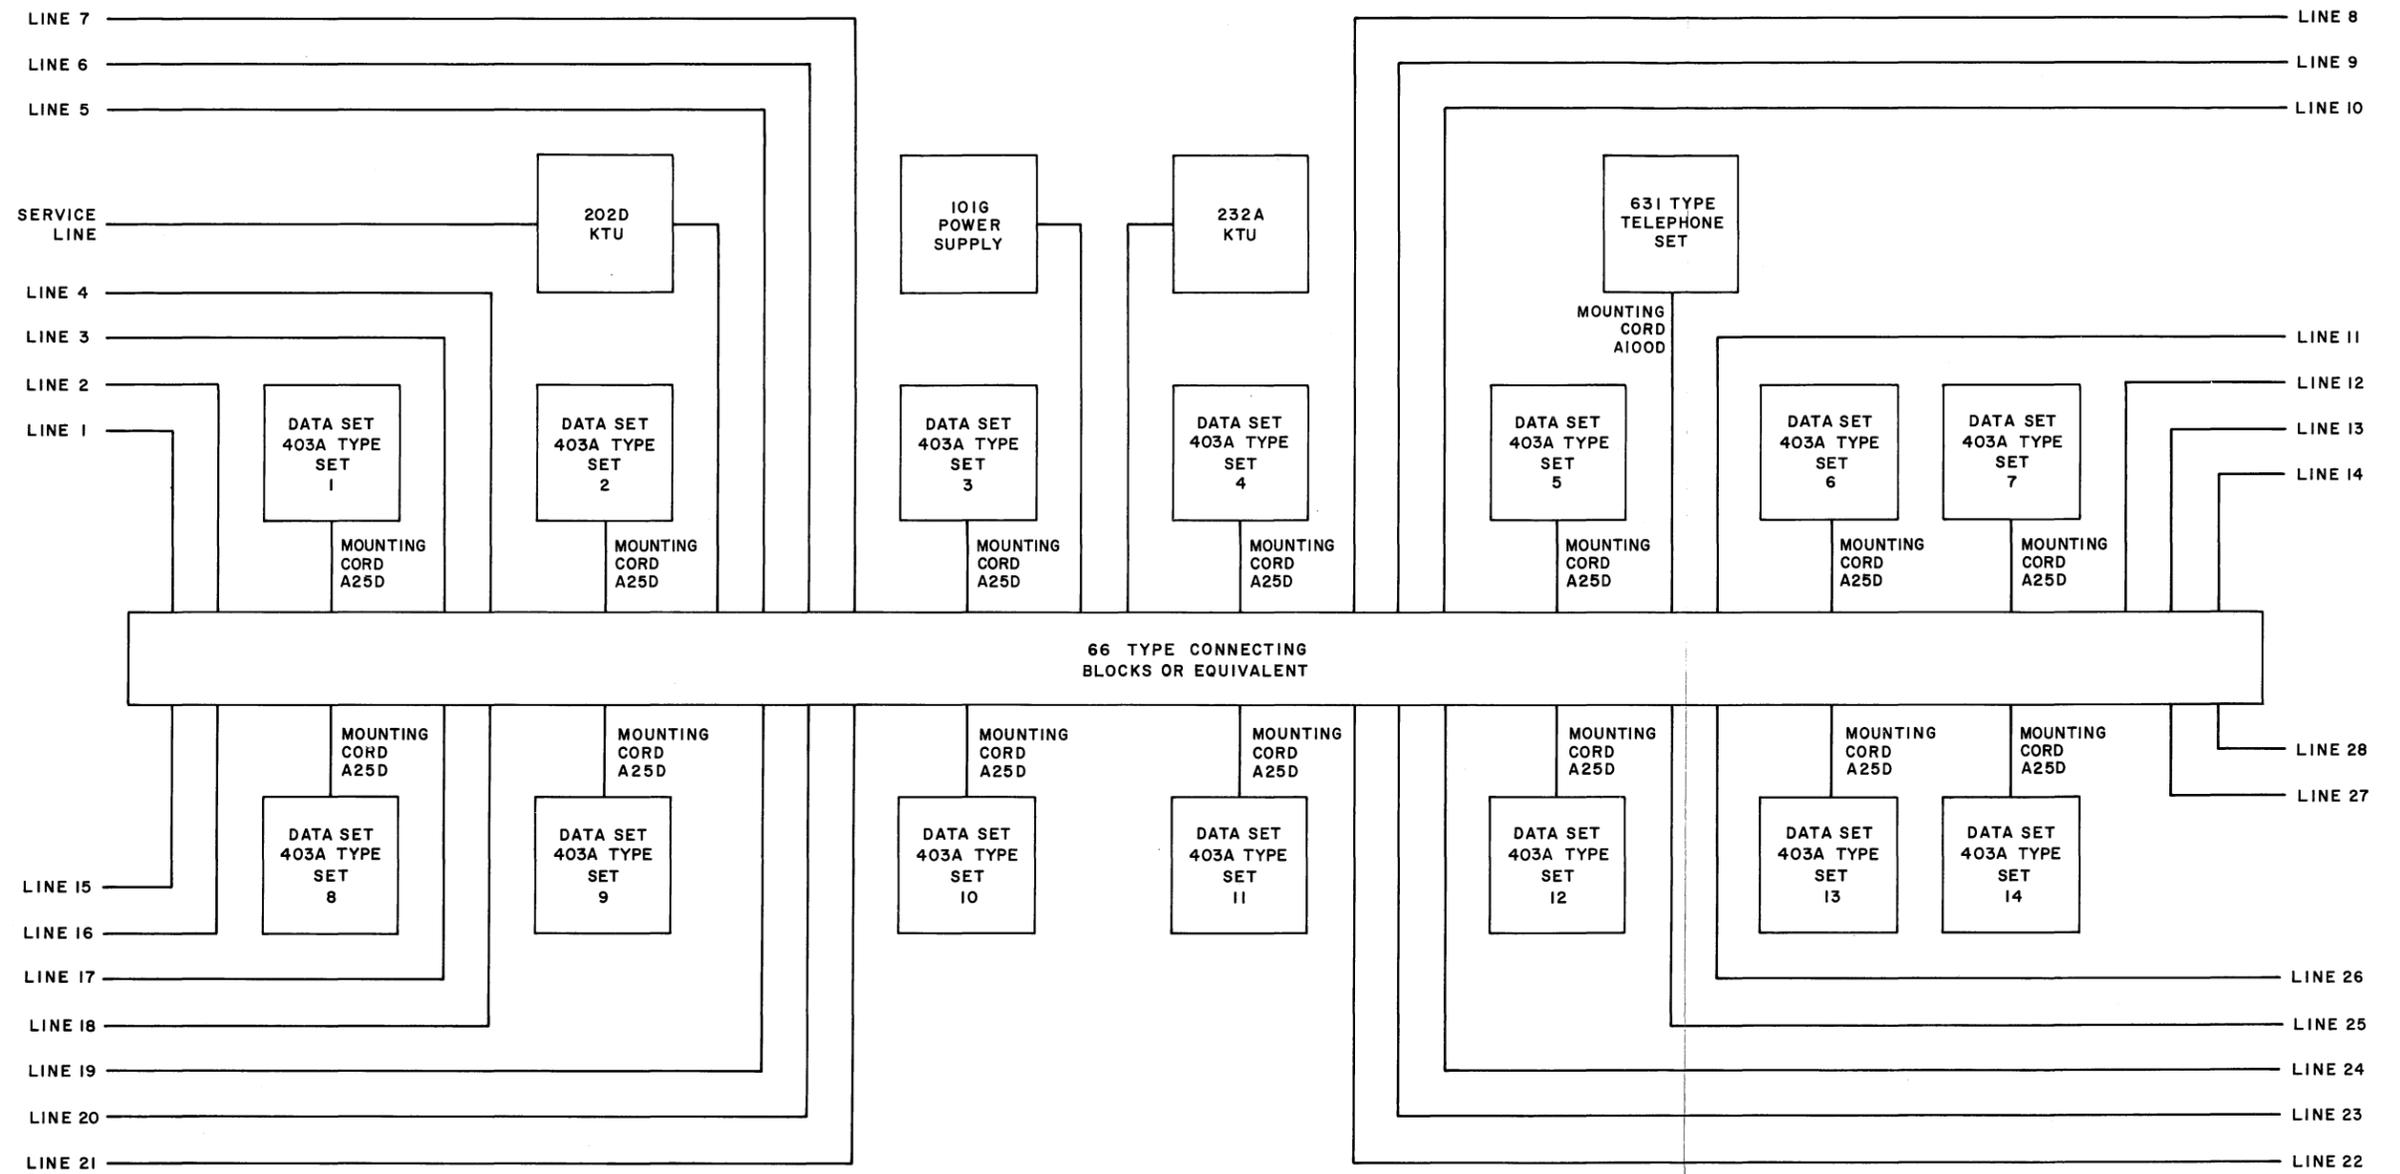

Fig. 8—Block Diagram of a Data Installation Using a Single Button 631-Type Telephone Set For Maintenance or Intercept For 28 Data Lines
3.14 Fig. 8 illustrates a data station using 14 data sets (28 receivers) in conjunction with one 631-type telephone set for maintenance of 28 data lines. Table H illustrates the type of connections necessary for this type of installation.
Note: Fig. 8 and Tables H and J together make a complete installation. It is necessary to have both intercept and maintenance capabilities regardless whether these functions are provided by a single call director or by several call directors.
↙ 3.15 Fig. 8 illustrates a data station using 14 data sets (28 receivers) in conjunction with one 631-type telephone set for intercept of 28 data lines. Table J illustrates the type of connections necessary for this type of installation.